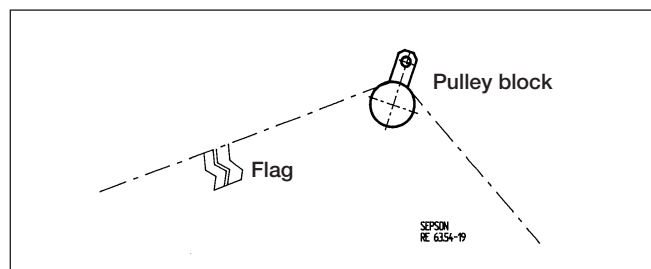

Fig 18 Marked rope
- Mark the rope with flag or similar half way along it when a lot of rope has been pulled out. See fig 18.